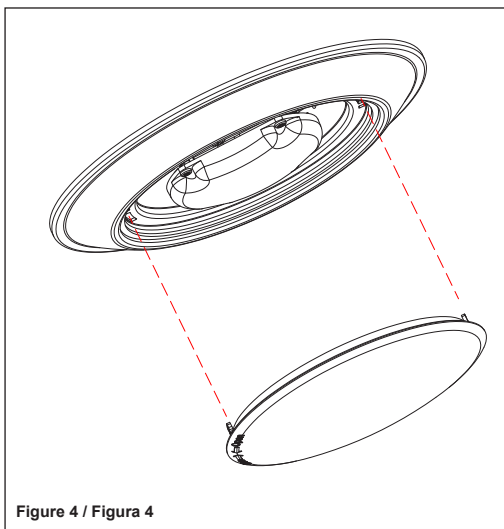

Figure 4 / Figura 4
4. Install the fixture lens back by align with the cutout hole then rotate it to CLOSE direction. (see Figure 4)